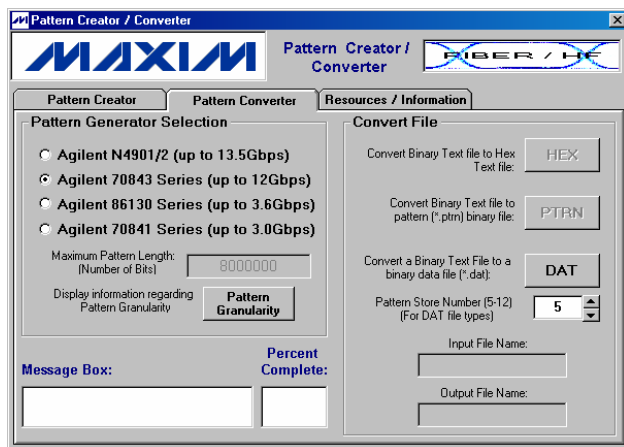

Figure 16. Converter Example Step #1
1. Select the pattern generator that will be used. For this example, we will assume the generator is the Agilent 70843 series (Figure 16).
2. Set the pattern store number for the DAT file type to any number between 5 and 12 by clicking on the up/down buttons (Figure 16).